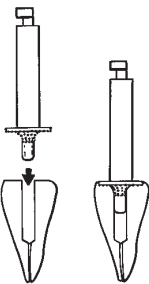
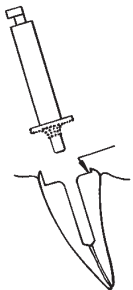

Fig. 2
Fig. 3
- Spotface the root surface using the Diamond Bur (Zest order No. 8922) to a depth where a full 360 degree recessed seat first appears on the occlusal surface of the root. (Fig. 2) When making a countersunk preparation into a divergent root, the depth of the countersink will vary across the surface of the root. On the shallow side of the preparation, create the minimum possible recessed seat using the Spotface Diamond Bur. (Fig. 3)